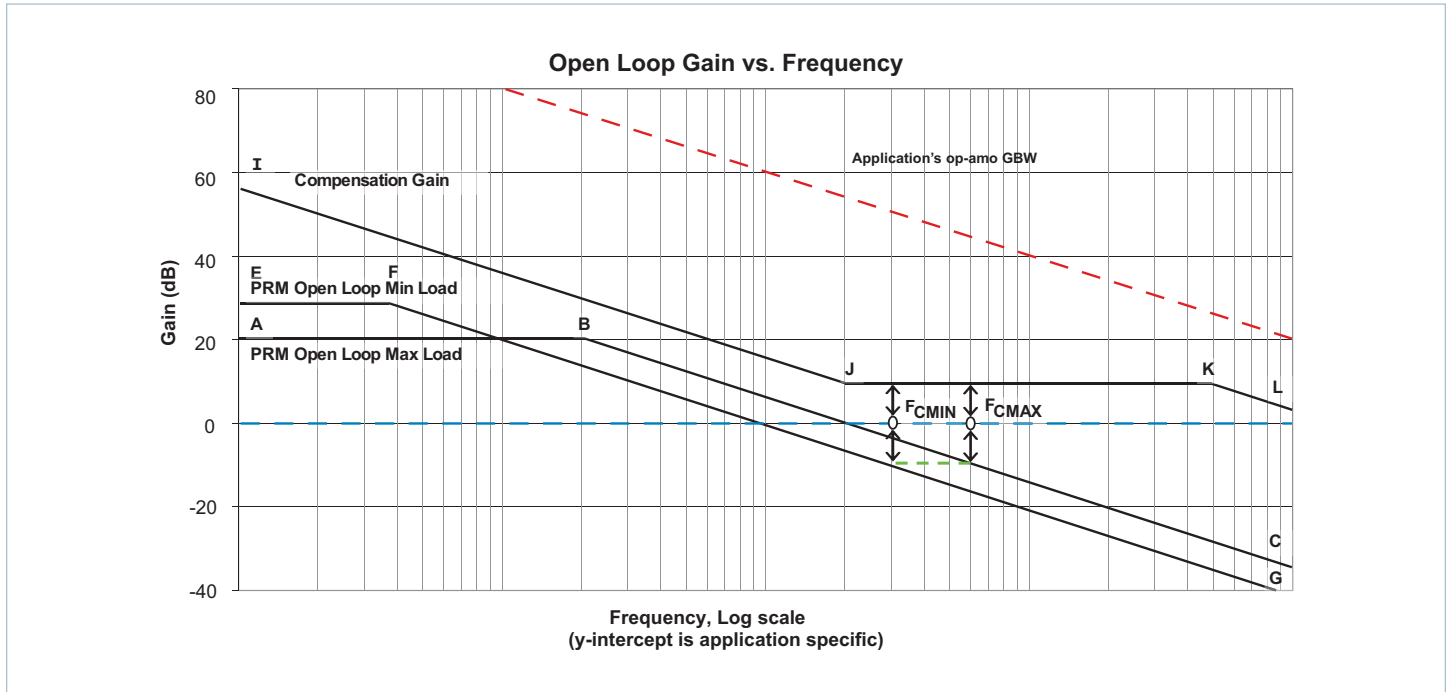

Figure 38 — Reference asymptotic Bode plot for the considered system
Figure 38 illustrates an example of a load step response. Equation (11) can be used to predict the phase margin based on the ratio of the “kick” to “droop” (as defined in Fig. 38).